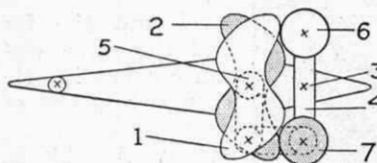

Fig. 1
BEFORE commencing to describe the Meccano model it will be necessary to study the manner in which the operating cams on the rudder head actuate the secondary rudder. This should be clear on reference to the diagrams shown in Figs. 1 to 4. In order to make the drawings easier to follow, one of the cams and its corresponding roller have been shaded in each drawing. The roller 6 on one end of the rocker arm 4 runs round the periphery of the cam 1, and the roller 7 runs on the cam 2.
It will be remembered from last month's description of the rudder mechanism that the quartermaster's wheel is connected to the cams 1 and 2, which turn about a pivot as a single unit, and the rocker arm 4 is connected to the secondary rudder. In Figs. 1 and 2 the quartermaster's wheel, and therefore the cams 1 and 2, are in the "midships" position. In Fig. 1 main and secondary rudder are in the normal position and the vessel moves straight ahead.
The above deflections are far larger than could occur in practice. They have been discussed in order to demonstrate the principles more clearly. The fulfilment of the conditions laid down in paragraph (c) (2) in last month's "M.M." is carried out in the following manner. Suppose that the engines are put astern while the rudder is normal, as in Fig. 1. Though the ship will still carry her headway for
The fulfilment of the conditions laid down in paragraph (c) (2) in last month's "M.M." is carried out in the following manner. Suppose that the engines are put astern while the rudder is normal, as in Fig. 1. Though the ship will still carry her headway for